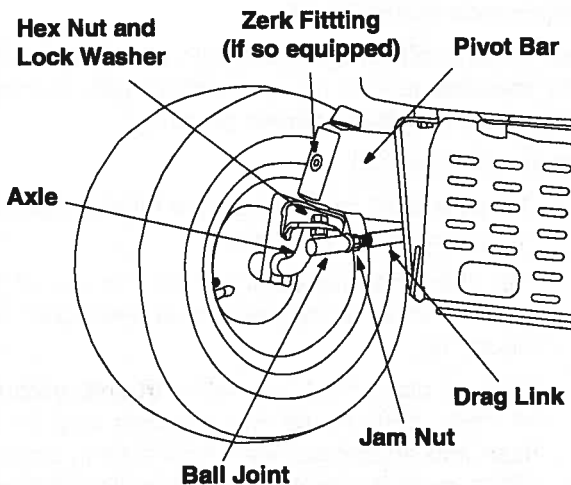

Figure 13
- Loosen the jam nut found on the drag link at the rear of the ball joint. See Figure 13.
- Remove the hex nut and lock washer on the top of ball joint. See Figure 13.